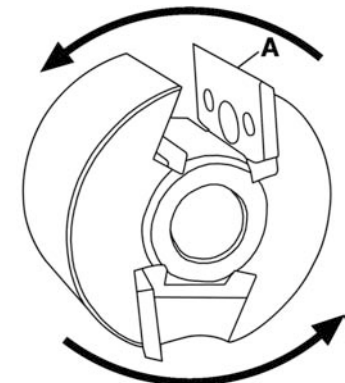

Figure 3
- 3) Remove the cutter (A) Fig.3 from the 2 positioning steel pins and replace it with desired cutter.
Warning! Make sure the cutting edge of the cutter faces the direction of rotation of the shaper spindle as shown in Fig.3